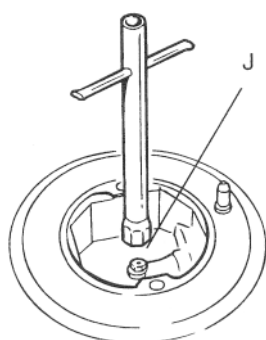

Fig. 7.3
- Using a wrench, substitute the nozzle injectors "J" (Fig. 7.3 - 7.4) with those most suitable for the kind of gas for which it is to be used.